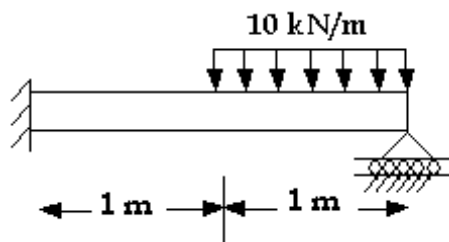

Figure 4
4. Consider a beam with uniform distributed load as shown in the figure4. Estimate the deflection at the centre of the beam.